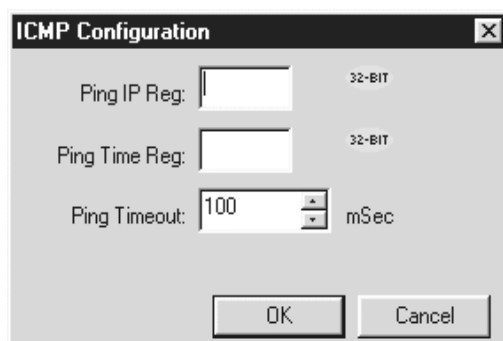

Figure 5.1 – ICMP Configuration Dialog
3. Click on the **Config** button next to the **ICMP (Ping)** checkbox to open the ICMP Configuration dialog (Figure 5.1).